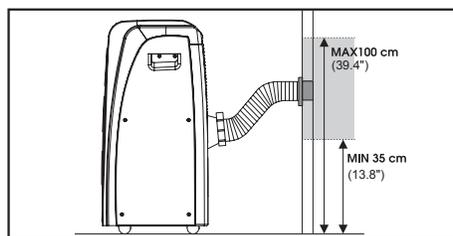

Fig. 6.
- Drill in an outside wall or in the window pane a 134 mm dia (5.3") hole respecting the heights shown in Figures 6.
- Fit the end of the hose to the flange as shown in fig. 6. When the hose is not fitted, the hole can be closed with the flange cap.